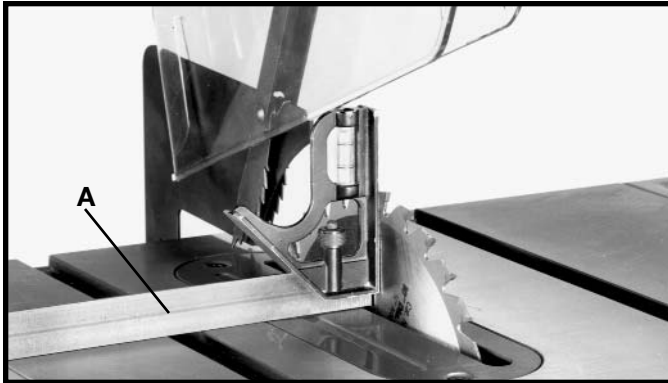
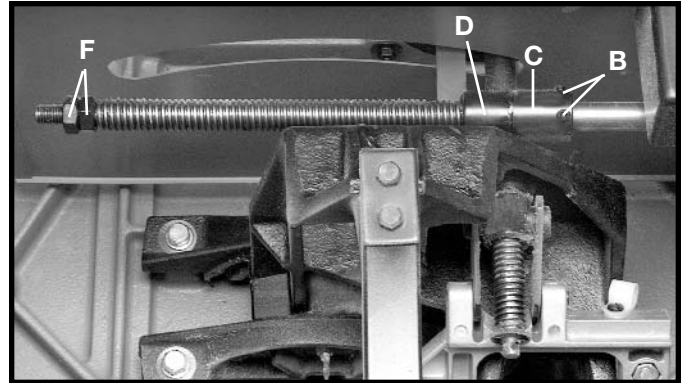
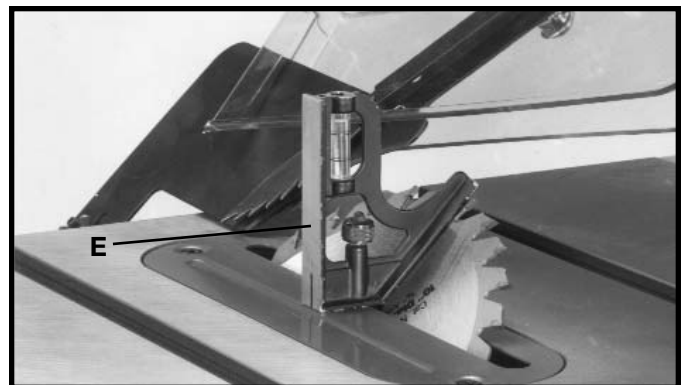

Fig. 36
Fig. 37
Fig. 38
1. Turn the blade tilting handwheel counterclockwise as far as it will go. Place a square (A) on the table and against the blade, as shown in Fig. 36, and check to see if the blade is at 90 degrees to the table. If the blade is not at 90 degrees to the table, loosen two set screws (B) Fig. 37, back off collar (C) and turn the blade tilting handwheel until the blade is at 90 degrees to the table. Then adjust collar (C) Fig. 37, so that it contacts bracket (D) when the blade is at 90 degrees to the table and tighten the two set screws (B).
2. Turn the blade tilting handwheel counterclockwise as far as it will go. Place a combination square (E) on the table and against the blade, as shown in Fig. 38, and check and see if the blade is at 45 degrees to the table. If the blade is not at 45 degrees to the table, back off the two locknuts (F) Fig. 37, and turn the blade tilting handwheel until the blade is at 45 degrees to the table. Then adjust the locknuts (F) Fig. 37, so that the inside nut contacts bracket (D) when the blade is at 45 degrees to the table. **NOTE:** After positive stops are set, check the pointer position and adjust as necessary.